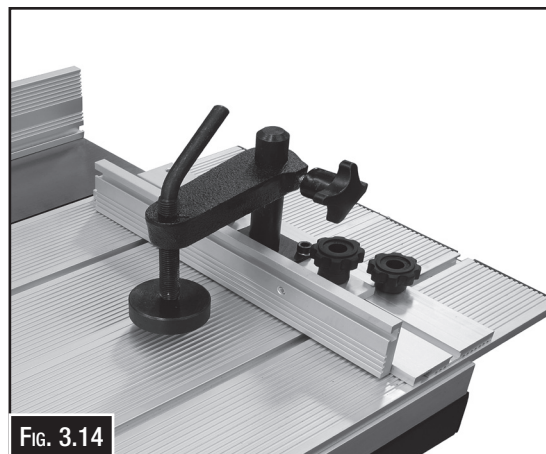

FIG. 3.14
1. With the push plate (#21) positioned face down and the knobs uppermost, fit the sliding table work clamp mount to it by engaging the flat edged bolts beneath the clamp mount to the push plate. Align the clamp mount centrally on the push plate and tighten the adjusting knobs. (Fig. 3.14) To complete assembly, attach the clamp to the clamp mount using the adjusting knob located on the side of the clamp.